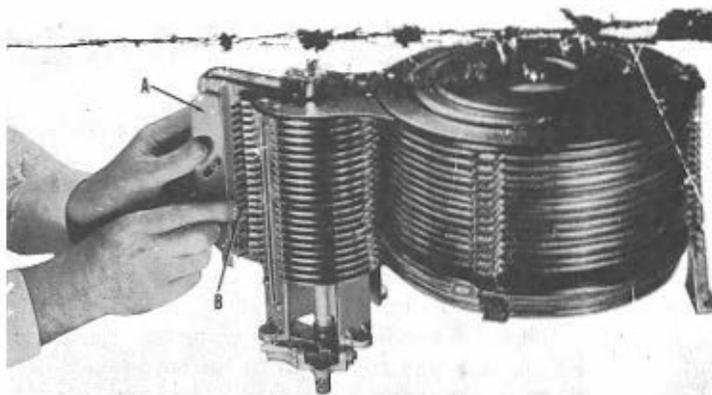

Fig. 5 - Tray Stack Assembly
1. Pull out tray release bar (A-Fig. 5).
2. Unhook tray unlocking dog (B-Fig. 5) to bring tray from stack.